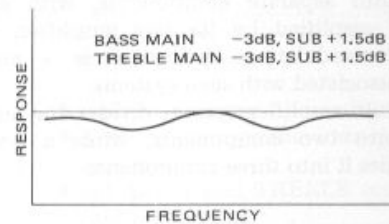

Fig.18 - Relatively enhancing the midrange.
- Careful adjustment of the BASS and TREBLE twin controls can provide the equivalent effect as enhancing the midrange. This is a useful technique for obtaining a close up of a singer's voice or similar applications. See Fig. 18.